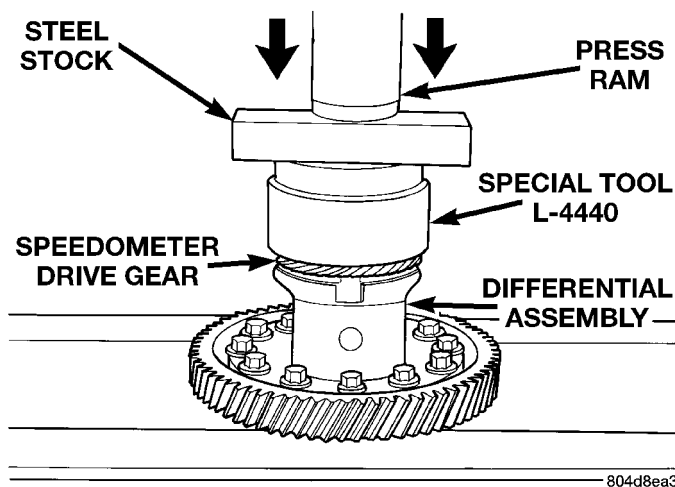
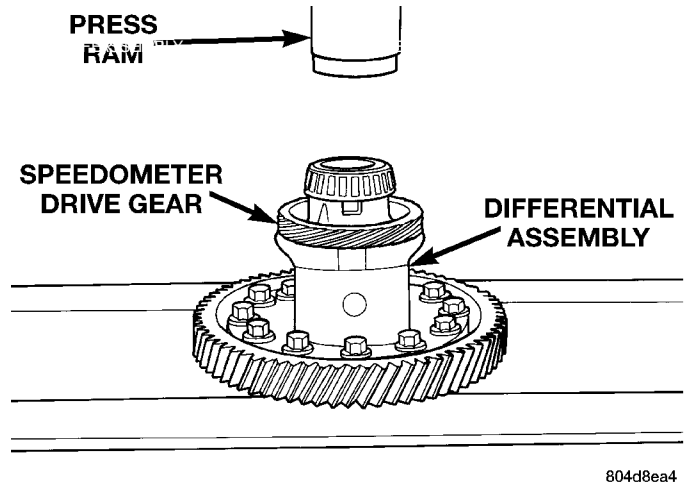

Fig. 106 Press Gear onto Differential
Fig. 107 Drive Gear Pressed onto Differential
(2) Using Miller Tool # L-4440 and steel stock, press speedometer drive gear onto differential (Fig. 106) (Fig. 107). Do not use a hammer.